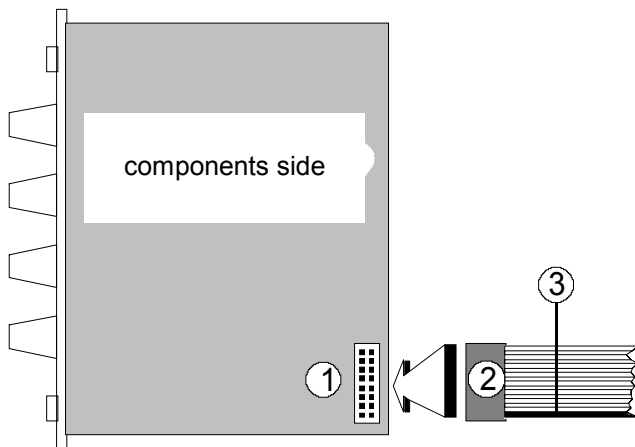

Fig. 1: Connecting the ribbon cable to the module
- Disconnect the power supply lead from socket ①.
- Connect the **ribbon cable supplied with each module** to the module's **bus connector** (see ① in Fig. 1). As a rule, this is 16-way, but on some modules it's only 10-way. Check that the cable connector is oriented correctly, (see ② in Fig. 1), and press it on to the module's bus pins.
Be very careful to ensure that **the coloured marking** on the ribbon cable is at the **bottom of the module's connector** (see ③ in Fig. 1) and that the connection is perfect, and **pushed fully home, not at a slight angle**. Failure to check this may result in the module's instant destruction as soon as the power is re-connected.
Again ensure that **the coloured marking** on the ribbon cable is at the **bottom of the module's connector** (see ③ in Fig. 1) and that the connection is perfect, and **pushed fully home, not at a slight angle**. Failure to check this may again result in disaster.